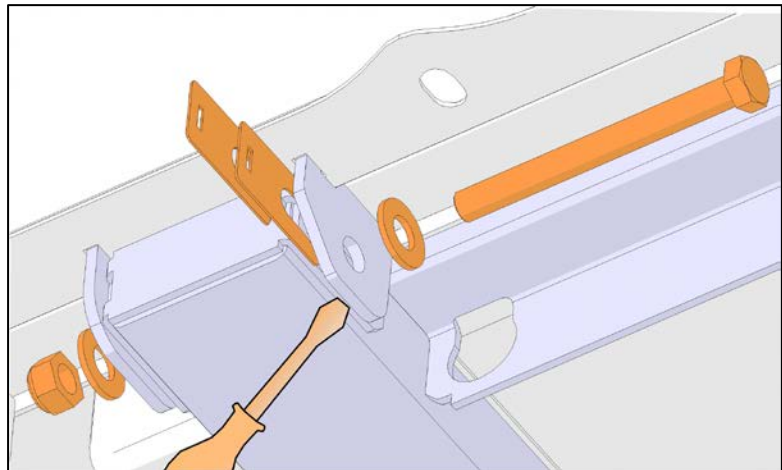

Figure 8: Screw and Shim Installation
**Note:** To ease shim insertion, you may need to pry lug and tube open with a flat head screwdriver. (Figure 8) Gently tap the shim with a hammer.